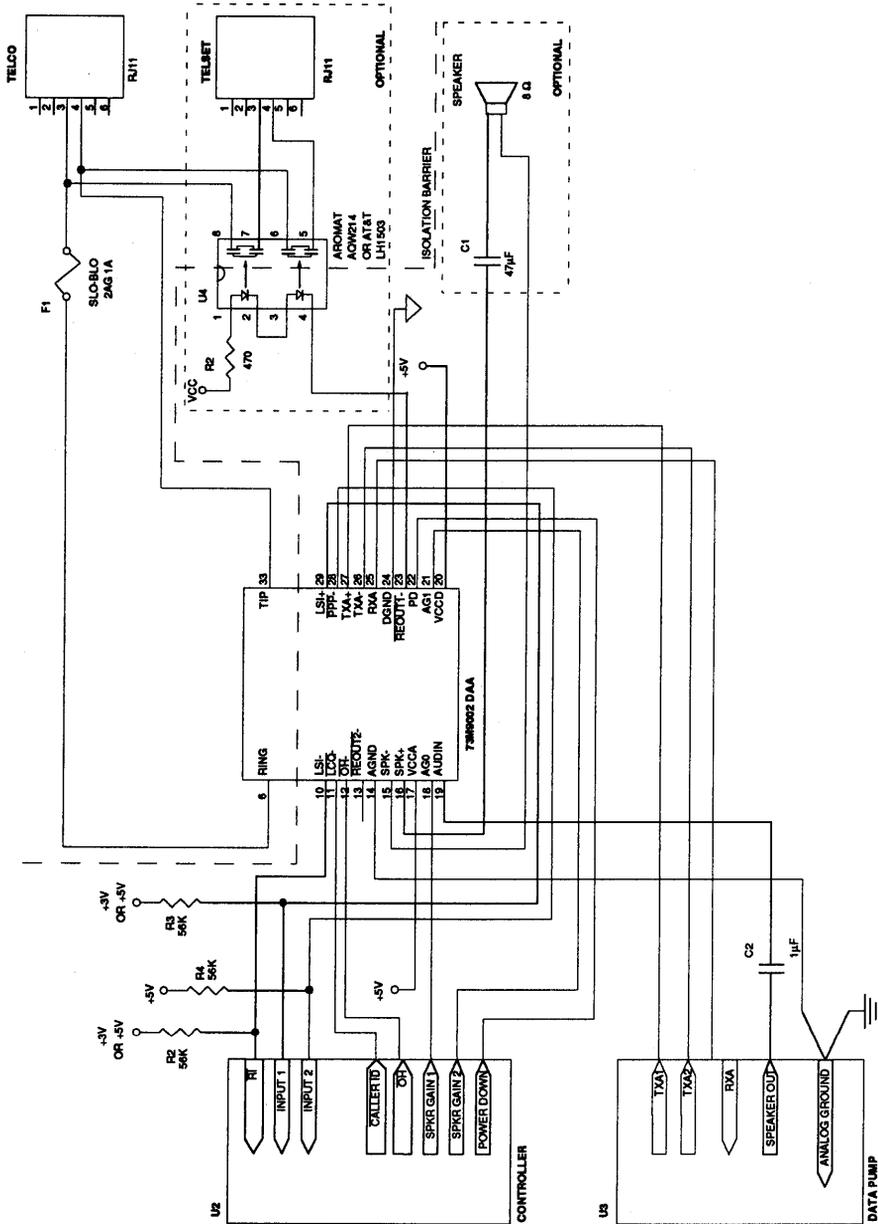

FIGURE 2: Typical Application
In the application, Figure 2, the 73M9002 is being utilized for a high speed fax/modem with Caller ID notification. When a call comes in on the phone line, the Line Status Indicators (LSI+ & LSI-) become active. The controller responds by driving the Power Down (PD) low and the Line/Caller Query (LCQ) low. This wakes the DAA from its Standby mode and properly connects the phone line to the 73M9002 to receive the Caller ID information. This information is then sent to the data pump through the Receive port (RXA). After receiving the Caller ID, the controller drives the $\overline{\text{LCQ}}$ pin high. If the controller decides to answer the call, it drives the Off Hook ($\overline{\text{OH}}$) low. The DAA goes off-hook thus enabling data to be sent from modem to modem via the Receive and Transmit (TXA+, TXA-) ports.
The TDK 73M9002 has the necessary protection circuitry for FCC Part 68, UL1950, DOC CS-03, CSA, and JATE metallic and longitudinal surge and UL1459 power line cross. The power line cross test can be destructive; therefore, TDK suggests the addition of a fuse to the Tip and/or Ring lines. The fuse should be a 1A, 2 AG slo-blo and can be on either Tip, Ring, or both (See Figure 2).